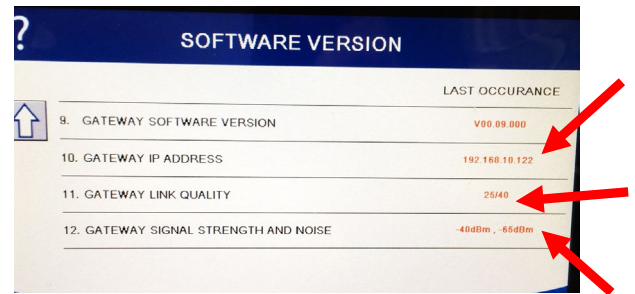

Figure 34
7. The **GATEWAY IP ADDRESS** is shown. The **GATEWAY SOFTWARE IP ADDRESS** should have some numbers that are **NOT ALL ZEROS** (see Figure 33). **NOTE: The IP address may be different than shown below (see Figure 34 on the following page).** If only zeros are shown, power cycle the entire fryer battery and wait 5-10 minutes before checking the software version and IP address again. **NOTE: An IP address should NOT start with 4 or 82.** If so, then it is
1. If the software version is all zeros (0), **WAIT AN ADDITIONAL FIVE (5) MINUTES and recheck using steps 1-7 in STEP 2 (Confirm the IP address).**
2. The first number on gateway link quality (refer to Figure 34) in #11 (Gateway Link Quality) which is shown at 0/40) is the difference between received signal strength and background noise level. This number is called SNR (Signal-to-noise ratio).
3. Gateway signal strength and noise (refer to Figure 34 #12). Signal strength from -20 dbm to -65 dbm is good connection. Noise level should be below -70 dbm to -95dbm